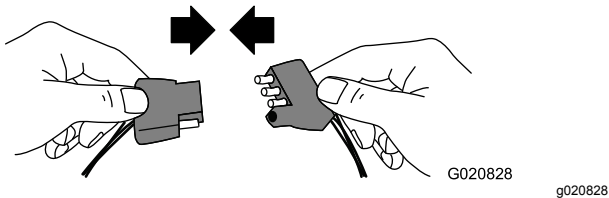

Figure 28
1. Connect the electrical plug of the machine with the electrical plug of the tow vehicle (Figure 28).